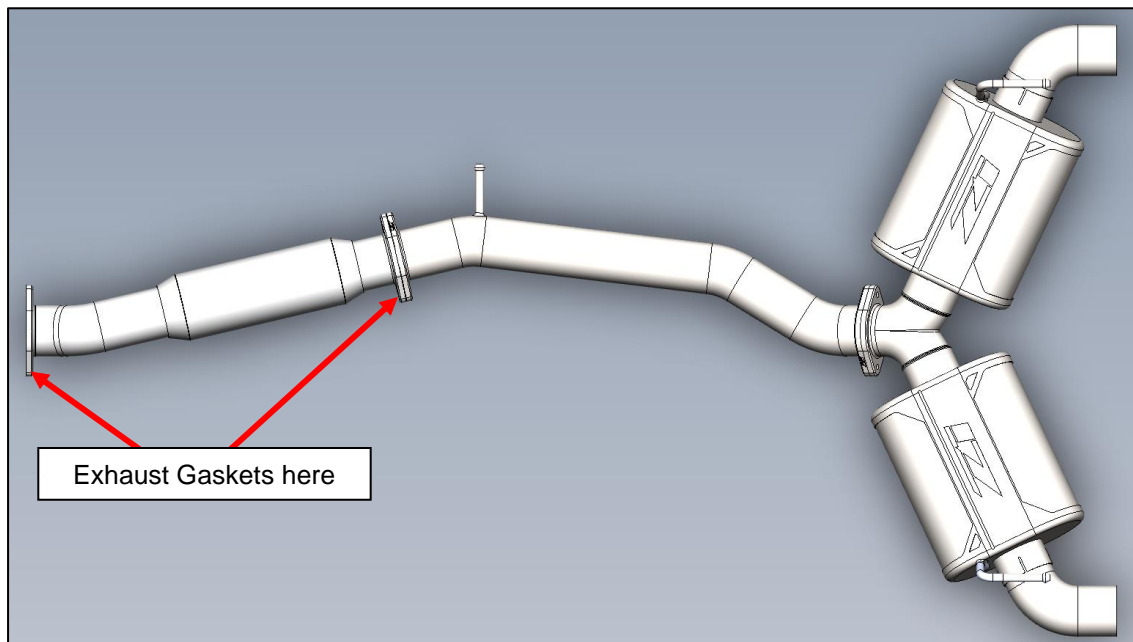

Figure 4
6. Locate the Resonator, (2) two Exhaust Gaskets, (4) four M10 Bolts and (4) four M10 Nuts. Position the Resonator as shown with an Exhaust Gasket between each flange. Loosely secure with the M10 Hardware at each flange. *Figure 4.*